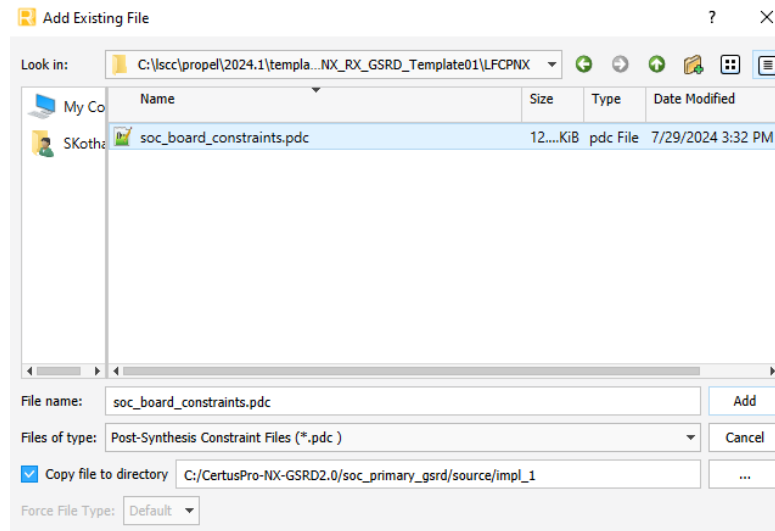

Figure 8.52. Select soc_board_constraint.pdc File
7. Similarly, add the `soc_board_constraints.pdc` file to the Post-Synthesis Constraint Files as shown in Figure 8.52. Click **Add**.